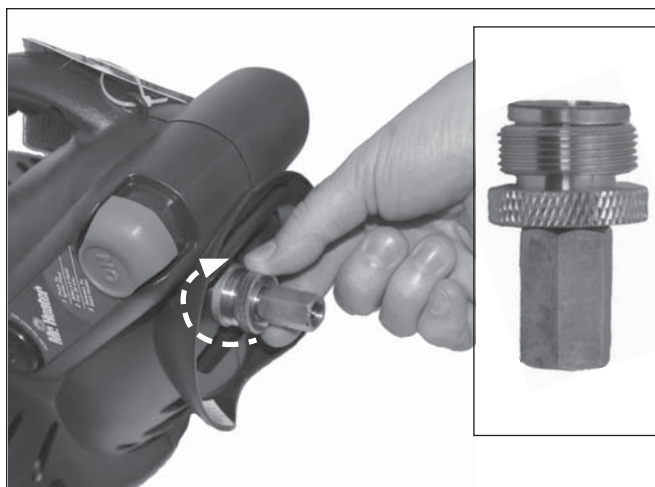
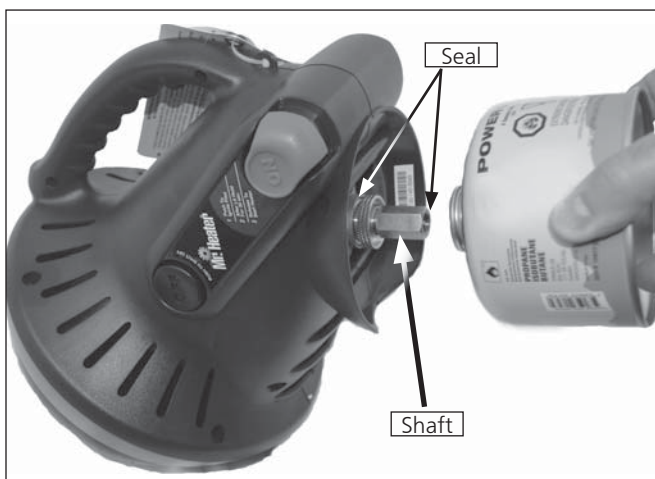

Figure 1
Figure 2
- Check that seals (between the appliance and the gas container ) are in place and in good condition before connecting to the gas container. Do not use an appliance which has damaged or worn seals. Do not use an appliance which is leaking, damaged or which does not operate properly. See Figure 2
- To use with butane/propane mixture (G30+G31): Screw brass adapter clockwise into portable heater regulator (from bottom) until tight. See Figure 1. Do not use thread sealant on this connection. Screw Butane/propane mixture (G30+G31) cartridge into the adapter (clockwise), once the shaft on the adapter starts to turn the cartridge is connected, then fit the cartridge into the stand. See Figure 2.
- Depress "ON" button for 30 seconds to light pilot flame (repeat until pilot lights) and continue to hold for 30-60 seconds. See Figure 2